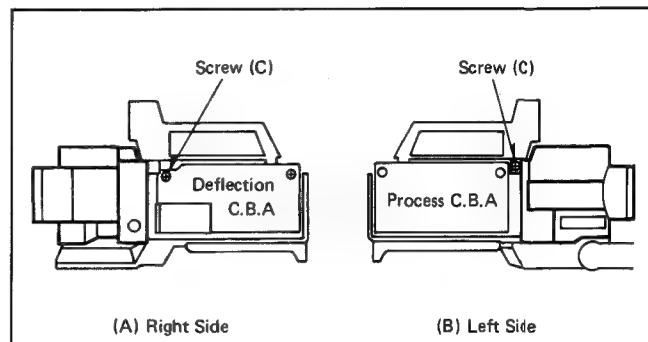

Fig. 2-(A), (B)
3. Unscrew 2 screws (C) (see Fig. 2-A/B).